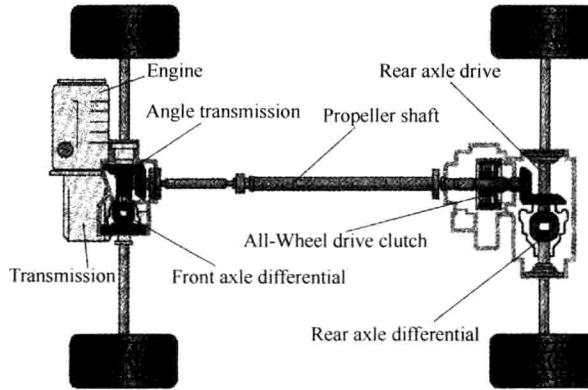

Fig. 1.3 Drive train components
The drive train transfers turning force from the engine crankshaft to the drive wheels. The drive train parts (Fig. 1.3) commonly found on a front-engine, rear-wheel-drive vehicle include the clutch, transmission, drive shaft, and rear axle assembly, and the drive train parts used on most front-engine, front-wheel-drive vehicles include the clutch, transaxle, and drive axles^[8].
- [8] The drive train parts (Fig. 1.3) commonly found on ... transaxle, and drive axles.